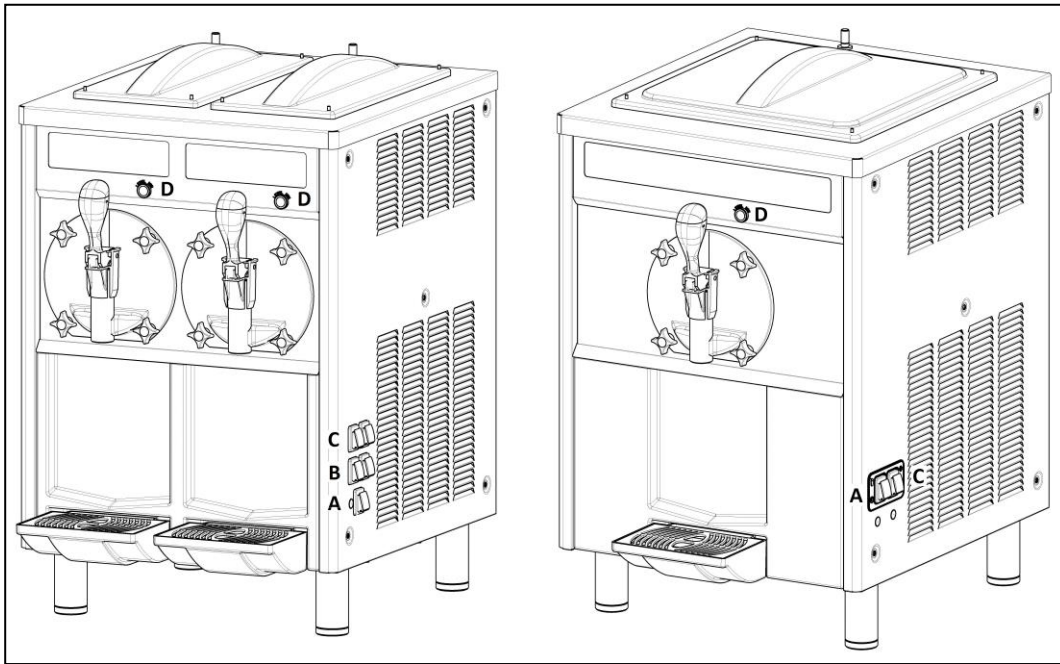

Fig. 7
- When the level of the slush inside the upper tank is below the minimum the D orange light (fig.7) turns on the machine front side; to prevent the product from becoming too thick inside the freezing cylinder, it is necessary to refill the upper tank. Failure to do so could damage some mechanical components of the unit.